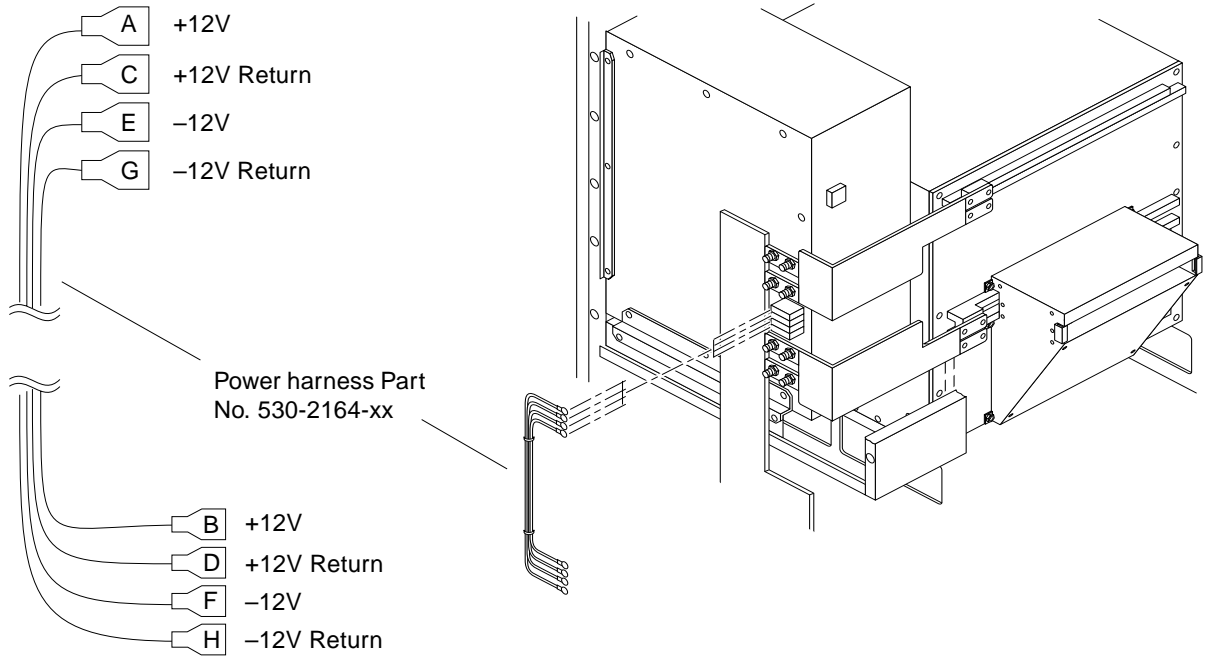

Figure 2-13 Installing Power Harness on the Top and Bottom Power Supply Terminal Blocks
- 1. Orient the power harness as shown in Figure 2-13.**
Push four spade connectors onto the spade lugs. See Figure 2-13.